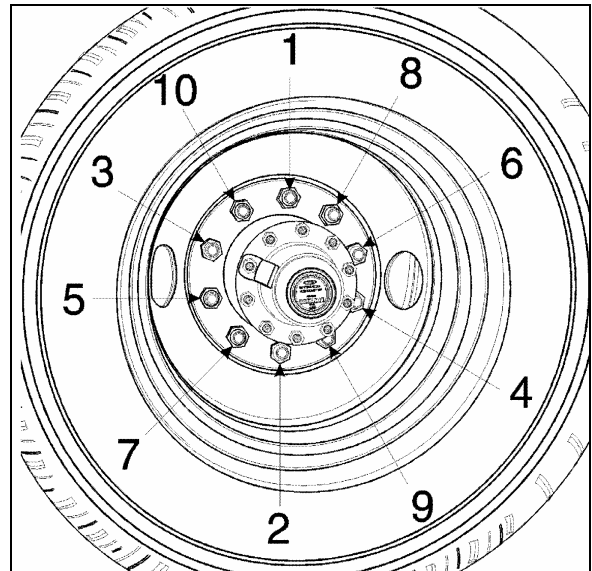
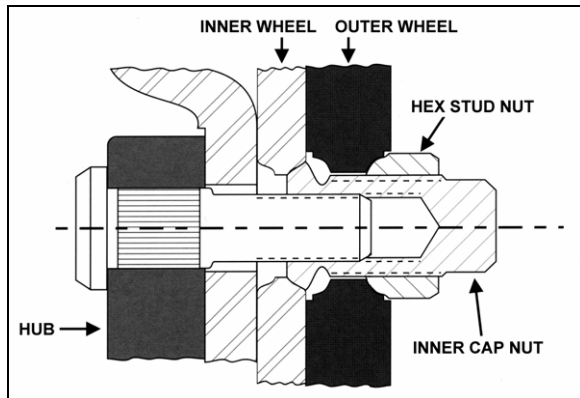

FIGURE 2: TIGHTENING SEQUENCE
FIGURE 4: STUD-MOUNTED WHEELS
It is also important that wheel stud nuts be tightened alternately on opposite sides of the wheel. Refer to Figure 2 for the suggested tightening sequence.
Tighten stud nuts progressively as shown in Figure 2. The final tightening should be done with a torque wrench. Tighten stud nuts to 450 - 500 lbf-ft (610 - 680 Nm) for aluminum as well as steel wheels.
2. Screw in the hex stud nuts (refer to Figure 2 for sequence) so that wheel will position itself concentrically with hub. This is important, otherwise wheel may be eccentric with hub and will not run straight. In this initial step, slightly tighten the nuts to correctly position the wheel;
3. Tighten stud nuts progressively as shown in Figure 2. The final tightening should be done with a torque wrench. Tighten stud nuts to 450 - 500 lbf-ft (610 - 680 Nm) for aluminum as well as steel wheel.
2. Screw in the inner cap nuts (Fig. 4), so that wheel will position itself concentrically with hub. Refer to Figure 2 for sequence;
3. Tighten inner cap nuts progressively according to sequence shown in Figure 2. Final tightening should be done with a torque wrench. Tighten inner cap nuts to 450 - 500 lbf-ft (610 - 680 Nm) for aluminum as well as steel wheel.
With inner wheel installed, tighten the hex stud nuts (Fig. 4) using the single wheel installation procedure described previously.
1. Loosen a hex stud nut three turns (Fig. 4);
Repeat for each of the 10 "hex stud nut - inner cap nut assemblies" according to the tightening sequence in Figure 2.